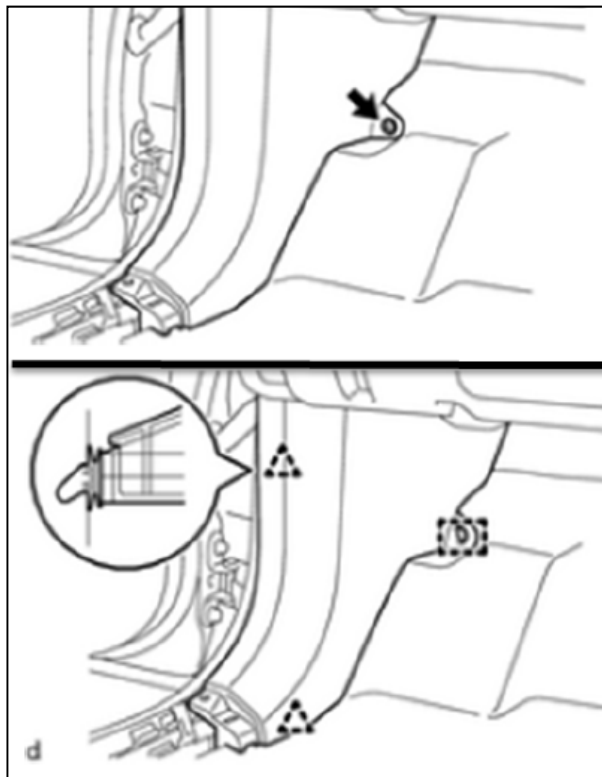

Figure 7
7. Remove the clip. Disengage the 2 clips and guide to remove the cowl side trim board LH. See Figure 7.